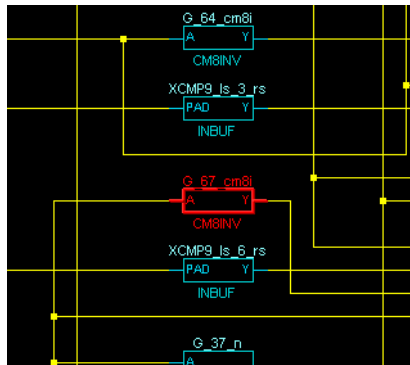

Figure 2-8. Highlighted Object
- From the Edit menu, click **Highlight** or click the **Highlight** button in the toolbar. The object changes from yellow or blue, to red, as shown in Figure 2-8.